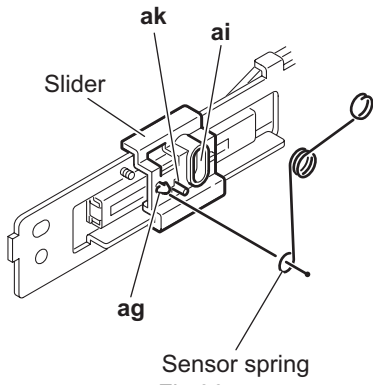

Fig.36
- When reattaching the SV. resister, attach the slider to the sensor bracket and fit the lever on the bottom of the SV. resister into slot **ak** of the sensor slider. (See Figs.36 and 37.)
- Fit pin **am** of the slide lever into hole **ai** of the slider on the bottom of the sensor assembly while attaching the sensor spring to the boss **ag** of the slider. (See Figs.36 and 38.)